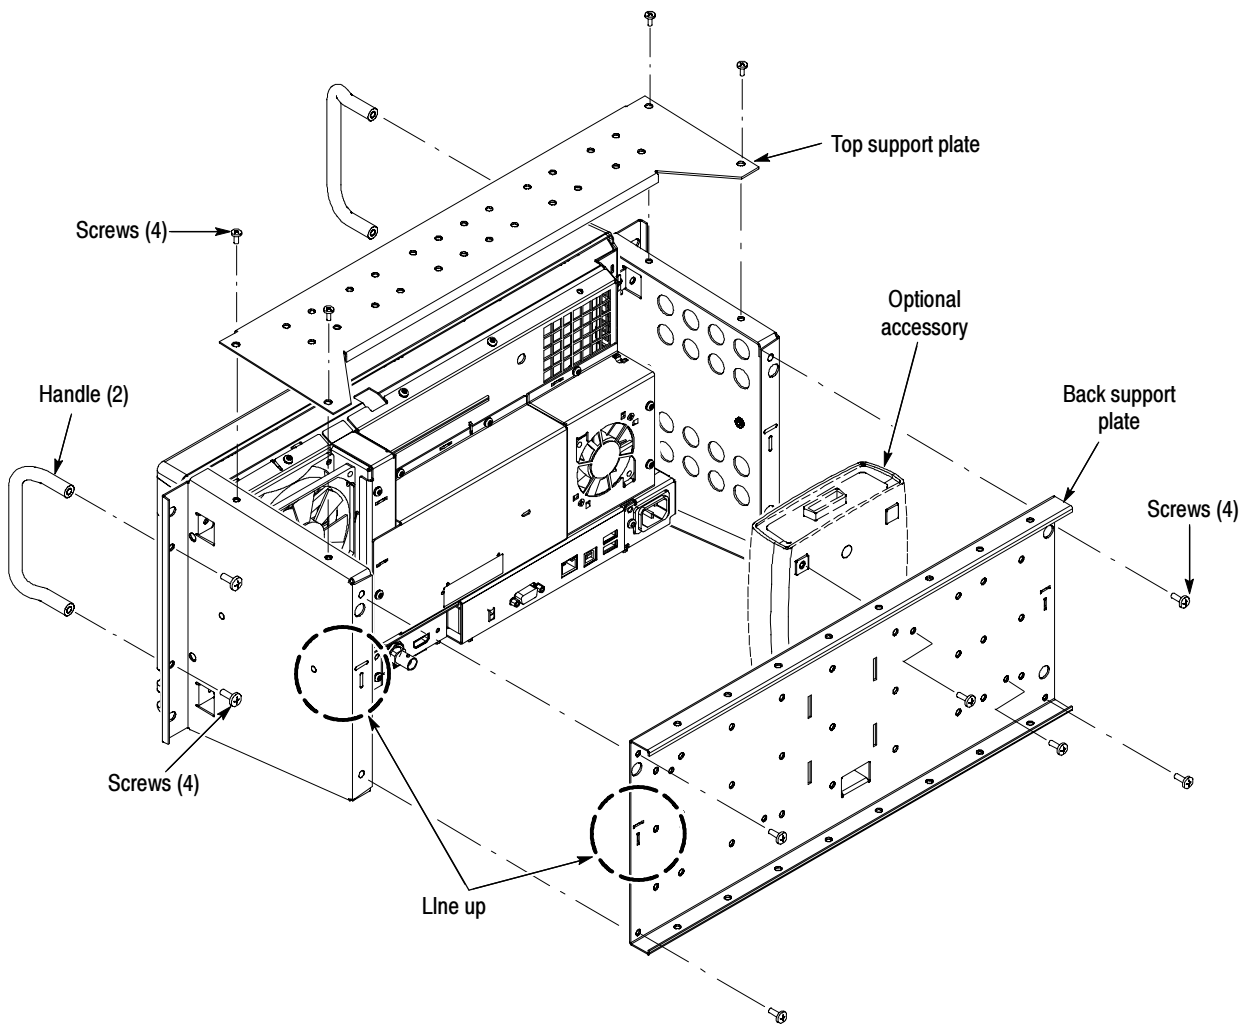

Figure 6: Installing the handles, top, and back support
2. Install the two handles using four 10-32 x 0.25 inch pan head T-25 TORX-drive screws tightened to 16 in-lb. Handles should curve towards the sides of the instrument. See Figure 6.
3. Fasten the back support plate to the left and right mounting plates with four 6-32 x 0.250 inch pan head T-15 TORX-drive screws, lining up the dimples in the back support plate with the slots in the mounting plates. Tighten screws to 8 in-lb. See Figure 6.
NOTE. The back support plate and top support plate have holes to facilitate mounting optional accessories. For example, Figure 6 shows the TEK-USB-488 GPIB to USB Adapter mounted to the back support with screws. (You can also use nylon straps to mount accessories.)
4. Install the top support plate on the left and right mounting plates using four 6-32 x 0.250 inch pan head T-15 TORX-drive screws tightened to 8 in-lb. See Figure 6.